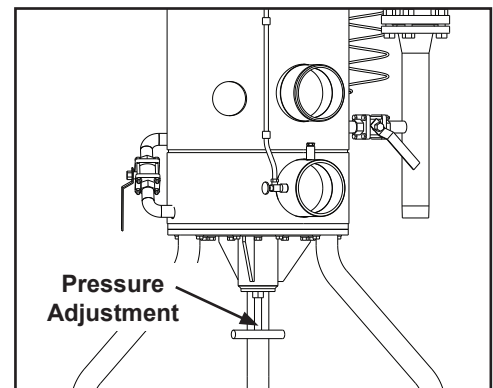

Figure 5.6: Pressure Adjustment
- Remove all cooling column port hoses, open ball valves and reduce pressure adjustment to zero (0) as illustrated in Figure 5.6.